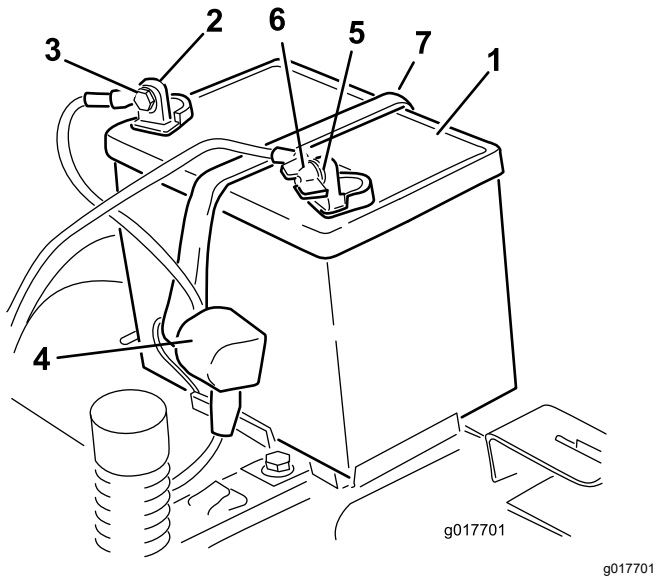

Figure 40
4. Disconnect the negative (black) ground cable from the battery post (Figure 40).
6. Disconnect the positive (red) cable from the battery post (Figure 40).
7. Remove the battery hold-down (Figure 40), and lift the battery from the battery tray.
1. Position the battery in the tray (Figure 40).
5. Secure the battery with the hold-down (Figure 40).